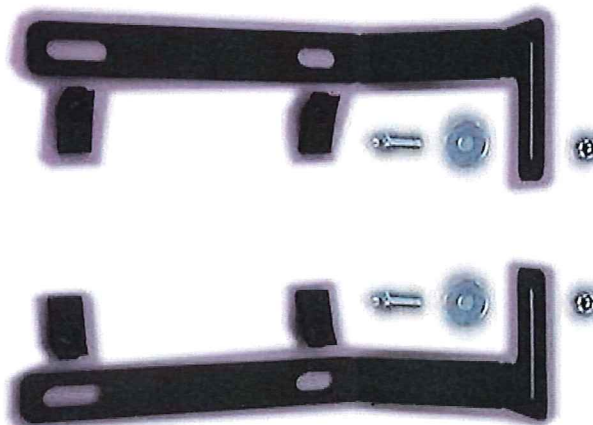

Figure 5
15. Mark the hole centers of the (4) slotted holes in the Main Heater Mounting Bracket on the under dash panel.
17. Take the LH and RH Mounting Brackets and install the U-nuts onto the brackets as shown in Figure 5.
19. Place the brackets in the long slotted holes behind the cubby hole and point them toward the center of the UTV as shown in Figure 5.
20. Using the supplied 1/4" x 3/4" Serrated Flange Bolts with the 1/4" Fender Washers as shown in Figure 5, insert the bolts and washers through the holes in the bottom of the cubby hole and into the long slotted holes of the LH & RH Mounting Brackets.